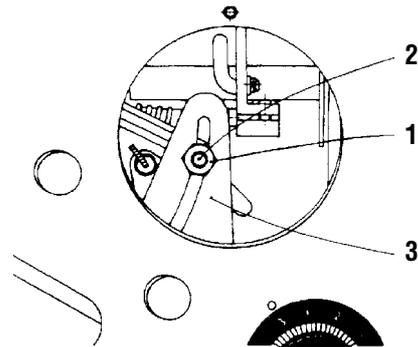

Fig. 17
17. Basic setting of the lever and the roller of the decorative stitch mechanism (Fig. 17, 18)